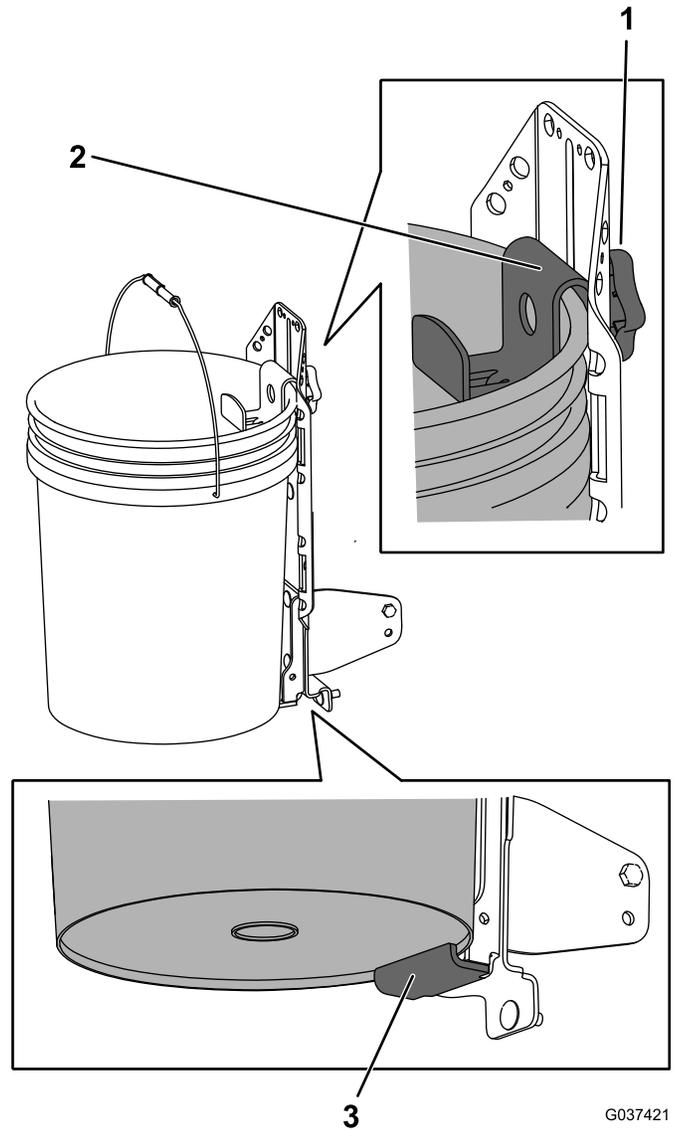

Figure 6
1. Loosen the knob and raise the top bracket. Tighten the knob to hold it in place (Figure 6).
2. Place the bottom lip of the bucket over the bottom ledge of the welded support bracket (Figure 6).
3. Loosen the knob and lower the top bracket as far as possible over the rim of the bucket. Tighten the knob (Figure 6).